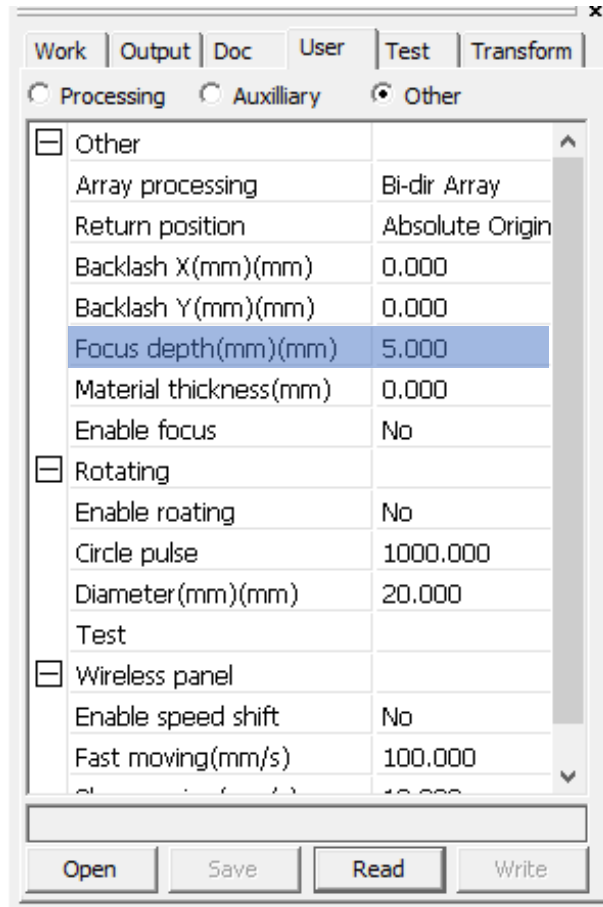

Figure 24c LaserWORKS Control Panel, User Tab
1. Open LaserWORKS and locate the control panel window on the right side of the screen, it will look like **Figure 24c**.
2. Once you locate find the control panel window, find the “User” tab shown in **Figure 24c**